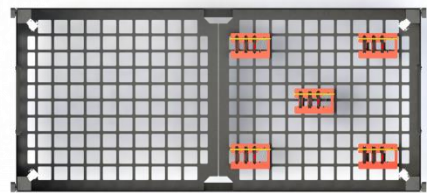

Fig 5.1.4. Setup for an Ultrasonic bath/washer Right Hand Side (RHS).
- d. Fig 5.1.4. an ultrasonic bath/washer with rectangular chamber – Right Hand Side.